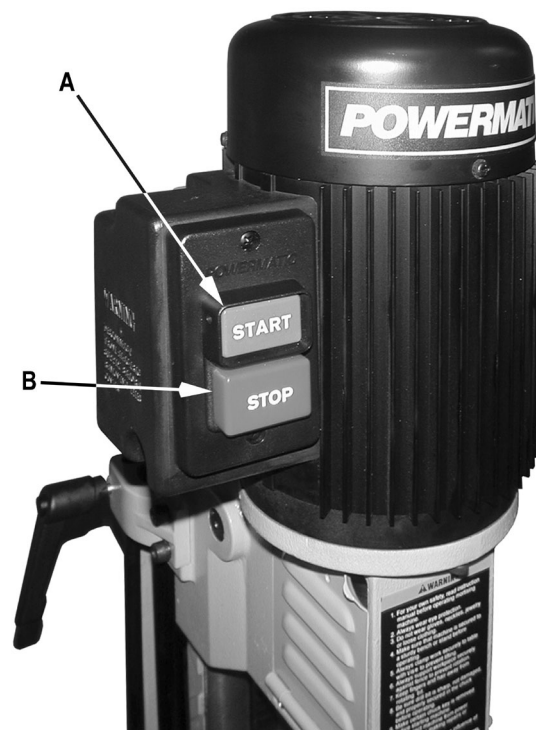

Figure 10
Referring to Figure 10: The *Start/Stop Switch* is located to the left of the motor on the side of the mortiser. To turn the mortiser on press the green *START* (A) button. To stop the mortiser, push the red *STOP* (B) button.